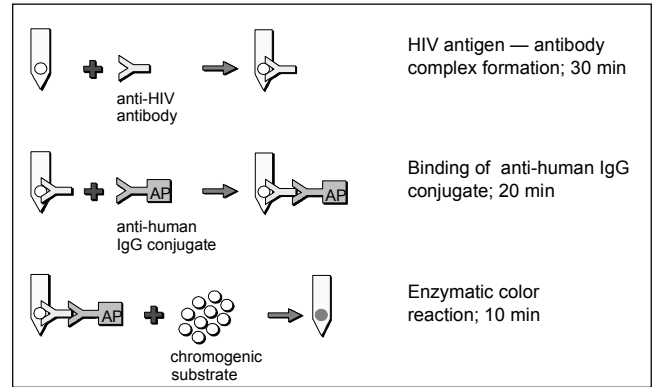

Figure 1. Principle of the Test
To start the test, serum or plasma specimens are added to the diluent in the wells of row A of the Developing Plate. The Card is then inserted in the wells of row A. Anti-HIV antibodies, if present in the specimens, will specifically bind to the HIV antigens on the teeth of the Card (Figure 1). Unbound components are washed away in row B. In row C, the anti-HIV IgG captured on the teeth, and the human immunoglobulin on the upper spots (Internal Control), will react with anti-human IgG antibodies labeled with alkaline phosphatase (AP). In the next two rows, unbound components are removed by washing. In row F, the bound alkaline phosphatase will react with chromogenic components. The results are visible as gray-blue spots on the surface of the teeth of the Card.